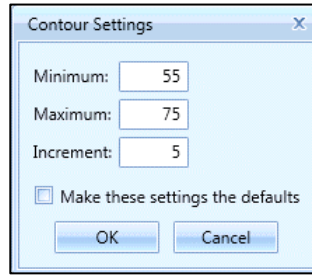

Figure 5-42 Contour Settings Dialog
3. The *Contour Settings* dialog is displayed (Figure 5-42).